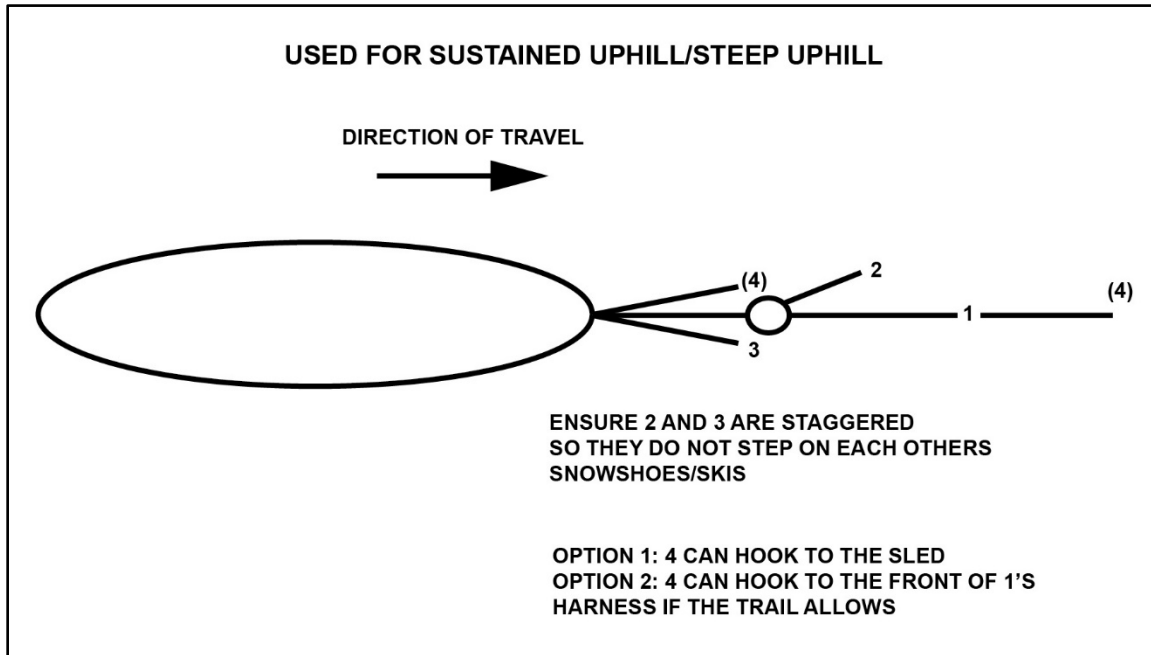

Figure 6-5. Sustained uphill (steep) configuration for hauling a scow sled
- If hooking to the harness in front, the trail must be straight to accommodate the additional length (see figure 6-5).